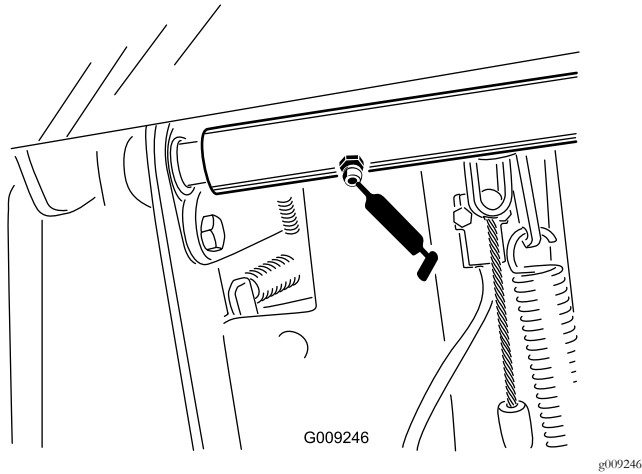

Figure 36
- Brake pedal pivot shaft bearings (2) (Figure 36)